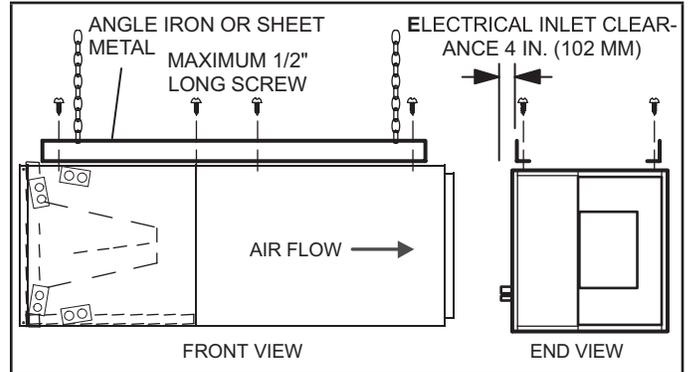

FIGURE 6. Suspending Horizontal Unit
- 6 - If the unit is suspended, the entire length of the cabinet must be supported. If you use a chain or strap, use a piece of angle iron or sheet metal attached to the unit (either above or below) to support the length of the cabinet. Use securing screws no longer than 1/2 inch to avoid damaging the coil or filter. See FIGURE 6. Use sheet metal screws to connect the return and supply air plenums as required.
- 11 - If suspending the unit, it must be supported along the entire length of the cabinet. If using chain or strap, use a piece of angle iron or sheet metal attached to the unit (either above or below) so that the full length of the cabinet is supported. Use securing screws no longer than 1/2" to avoid damage to coil or filter, as illustrated in FIGURE 6. Connect return and supply air plenums as required using sheet metal screws.